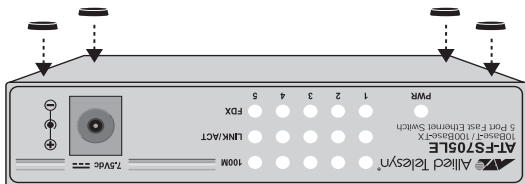

Figure 1 Attaching the Rubber Feet
2. Attach the four protective rubber feet to the bottom of the switch, as illustrated in Figure 1.